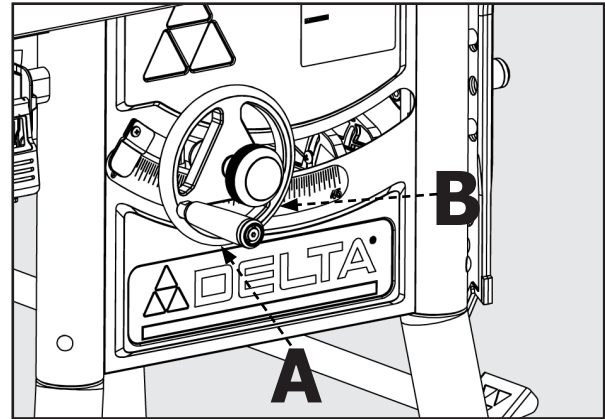

FIGURE 15
**Raise or lower the blade with the hand wheel (A) located on the front of the saw, maximum 45° (See Figure 15).**
1. Before raising or lowering the blade, be sure to loosen the lock knob (B) by turning it counterclockwise.
**NOTE:** Safety devices, blade guard assembly and anti-kickback assembly have been removed in Figure 15 in order to show the location of specific features. When operating the saw, these safety devices should be in place and working properly.